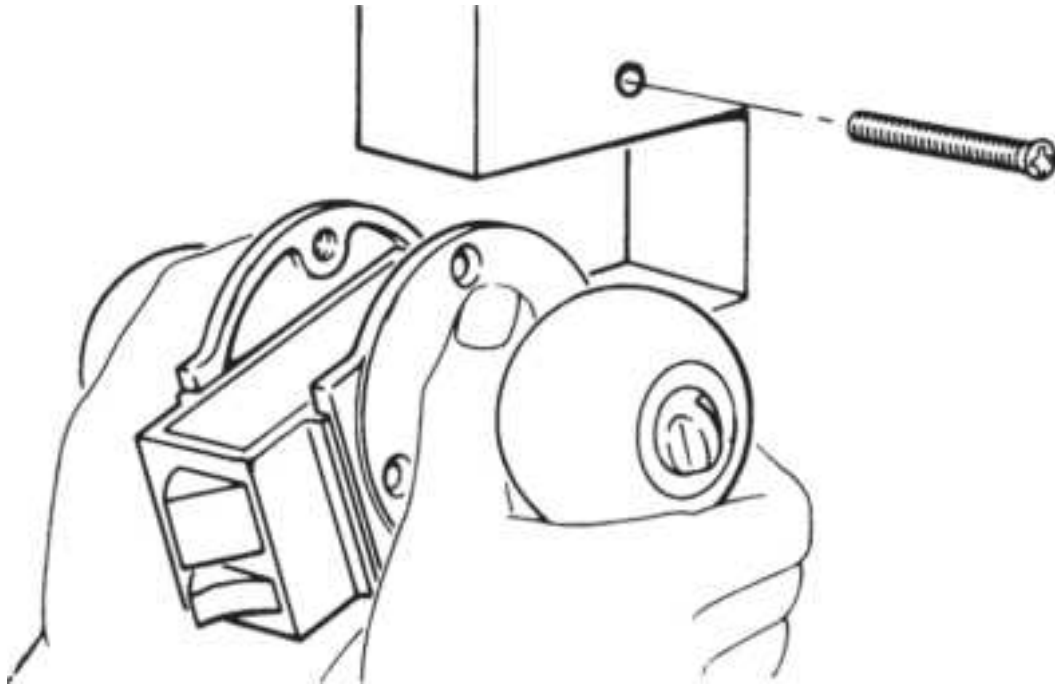

**Figure 13.25** Removing through-bolts.
**Removing the locksets from a door.** First, remove the through-bolts on the inside of the door (Fig. 13.25 ). Push the outside escutcheon away from the door so the lugs clear the holes. Slide the assembly out of the door.